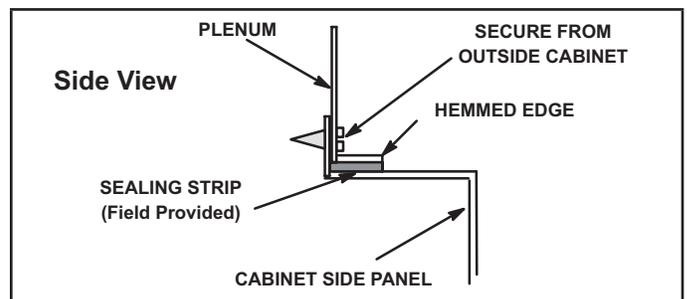

FIGURE 10
- 1 - Bottom edge of plenum should be flanged with a hemmed edge (See FIGURE 10).